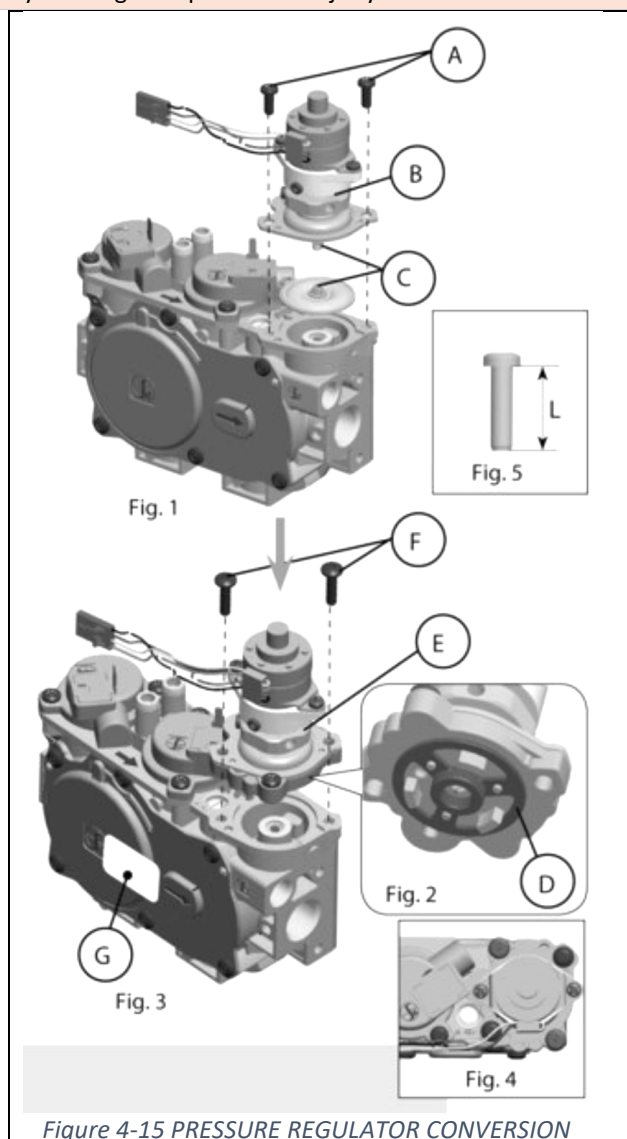

Figure 4-15 PRESSURE REGULATOR CONVERSION
2. See Figure 4-15- 2: Ensure the rubber gasket (D) is properly positioned. The rubber gasket is pre-fitted as part of assembly (E).
3. See Figure 4-15- 3 and Figure 4-15-4: Install the new stepper motor pressure regulator assembly. Use the provided screws (F), M4 x 0.7 threaded; length of thread  $L = (16\text{mm} + 0 - 0.5\text{mm})$ , steel material, resistance class 8.8 (Figure 4-15-5).
6. Install the enclosed identification label (G) to the valve body where it can be easily seen.